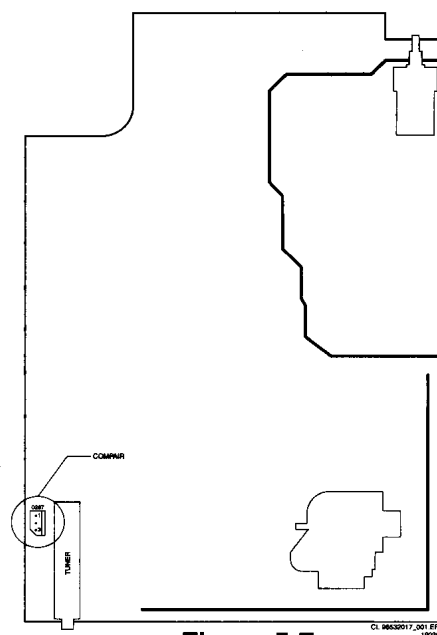

Figure 5-7
8. Connect the other end of the interface cable to the Compair connector on the monocarrier (see figure 5.7)